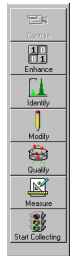
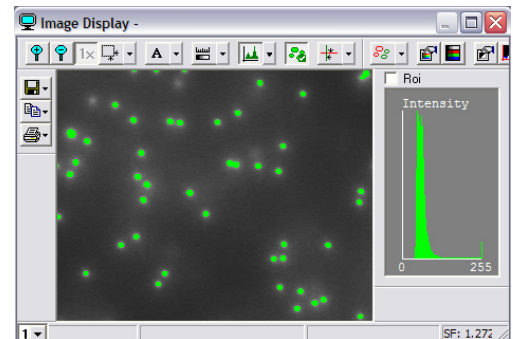
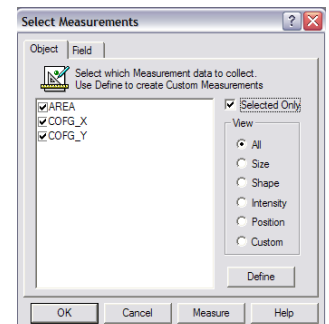

fig.3
fig.4
fig.5
8. Click the **Identify** icon (fig.3) to open the **Identify Objects** window. Set the Threshold of your image by adjusting the **Min.** and **Max.** slider until the cell or your object of interest is covered by a green binary overlay (fig.4). Click **OK**.
9. Click the **Modify** icon (fig.3) if you need to modify your binary image with a binary filter, such as **Erode**, **Dilate**, **Close**, **Open**, etc. In this example, a **Close** binary operation was applied.
10. Click the **Qualify** icon (fig.3) to reject unwanted objects from your binary overlay by adjusting the **Min** and **Max** slider.
11. Click the **Measure** icon (fig.3). Check **Area**, **COFG_X** and **COFG_Y**. Click **OK** (fig.5).